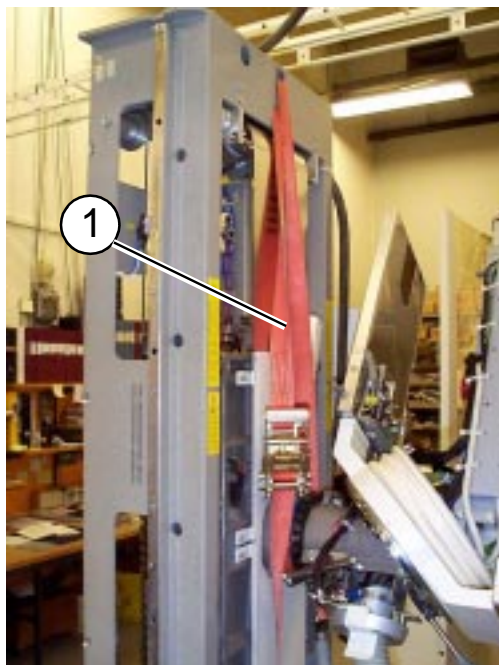

Fig. 1
3. Secure the lifting carriage with a strap (see Fig. 1, pos.1).